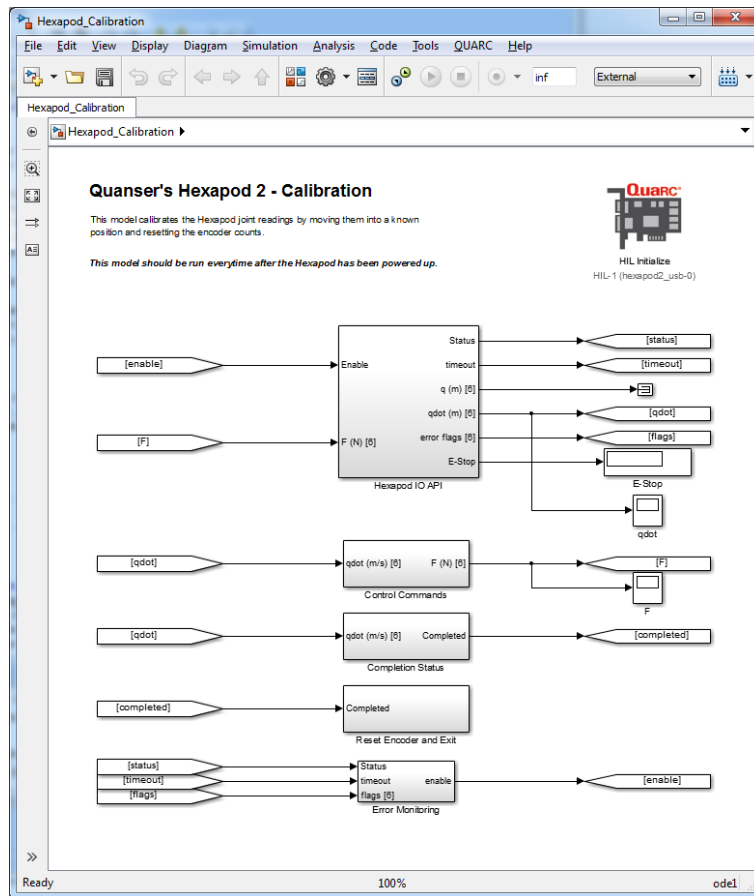

Figure 2.1: Simulink model used to calibrate the 6 DOF Hexapod using QUARC.
When the Hexapod is first powered ON, the positions measured from the encoders on all the joints are reset to 0, regardless of where the base joint of the Hexapod are actually at. The Hexapod_Calibrate.mdl controller, shown in Figure 2.1, positions each of the six joints along the linear guide until they reach the limit switch. Once all six joints have been placed at the limit switch positions, the encoders are reset and the model is stopped. If the joints are already at the calibrated position then the controller will only reset the encoders and stop the controller. Once calibrated, run the homing procedure outlined in Section 2.2.
2. Open the Simulink model called Hexapod_Calibrate.mdl, shown in Figure 2.1.